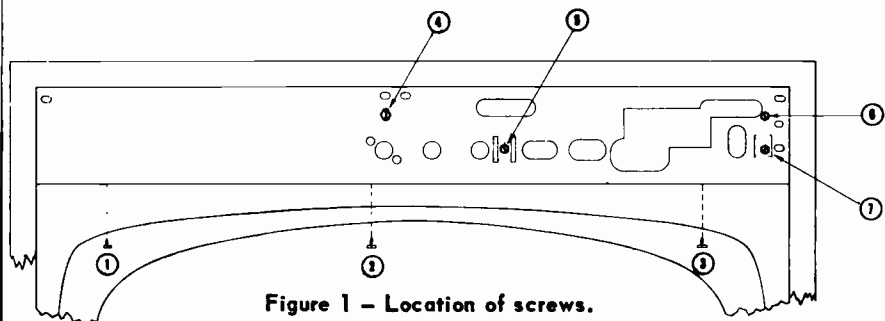

Figure 1 - Location of screws.
2. Remove front escutcheon. It is held by screws 1, 2, and 3 (Figure 1). Remove thumbwheel knobs.
3. Remove screws 4, 5, 6, and 7 (Figure 1) which hold the control panel to the front plate.